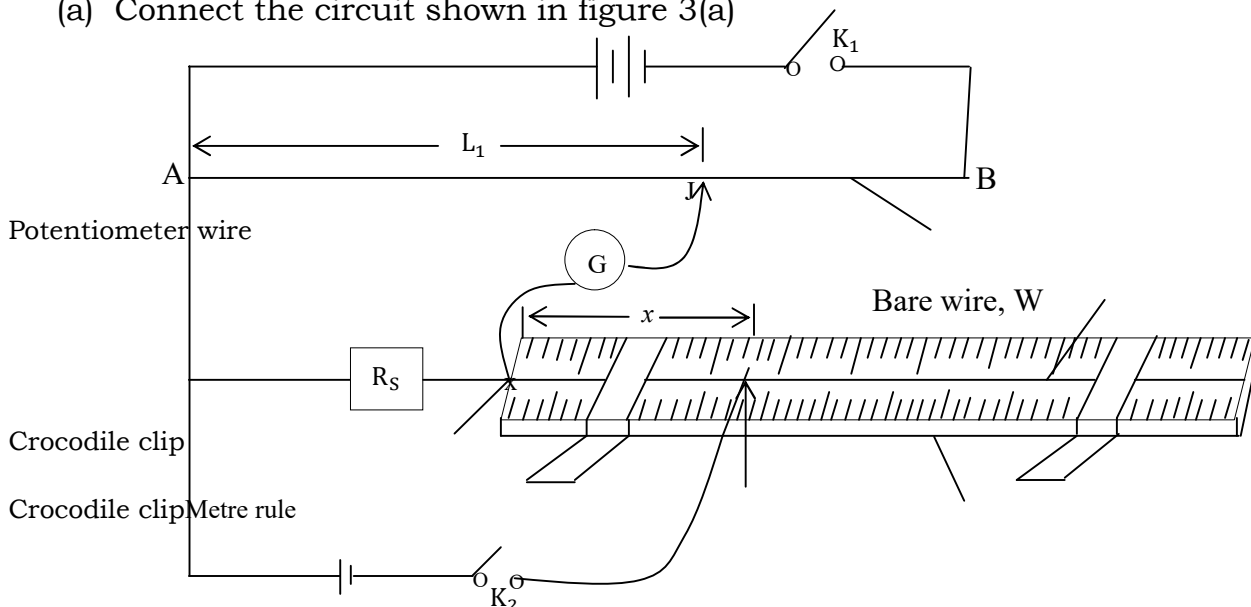

Fig. 3(a)
- Connect the circuit shown in figure 3(a)